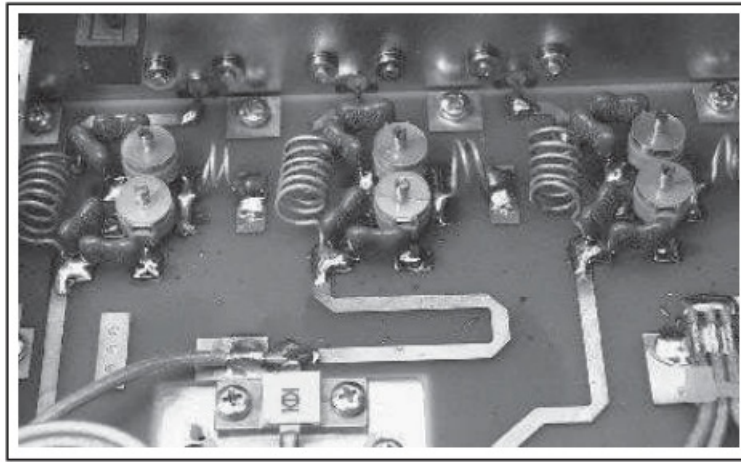

Figure 9.1
5. Regulate all the variable capacitors to their middle position (Figure 9.1)